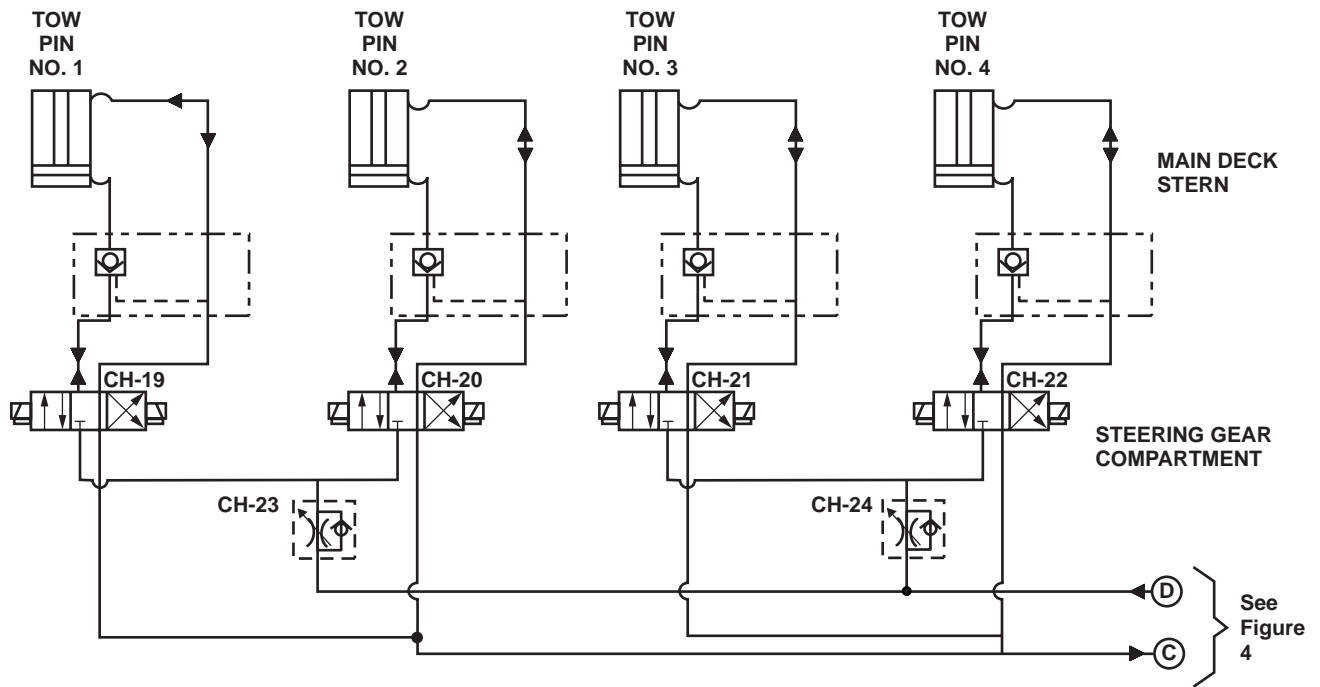
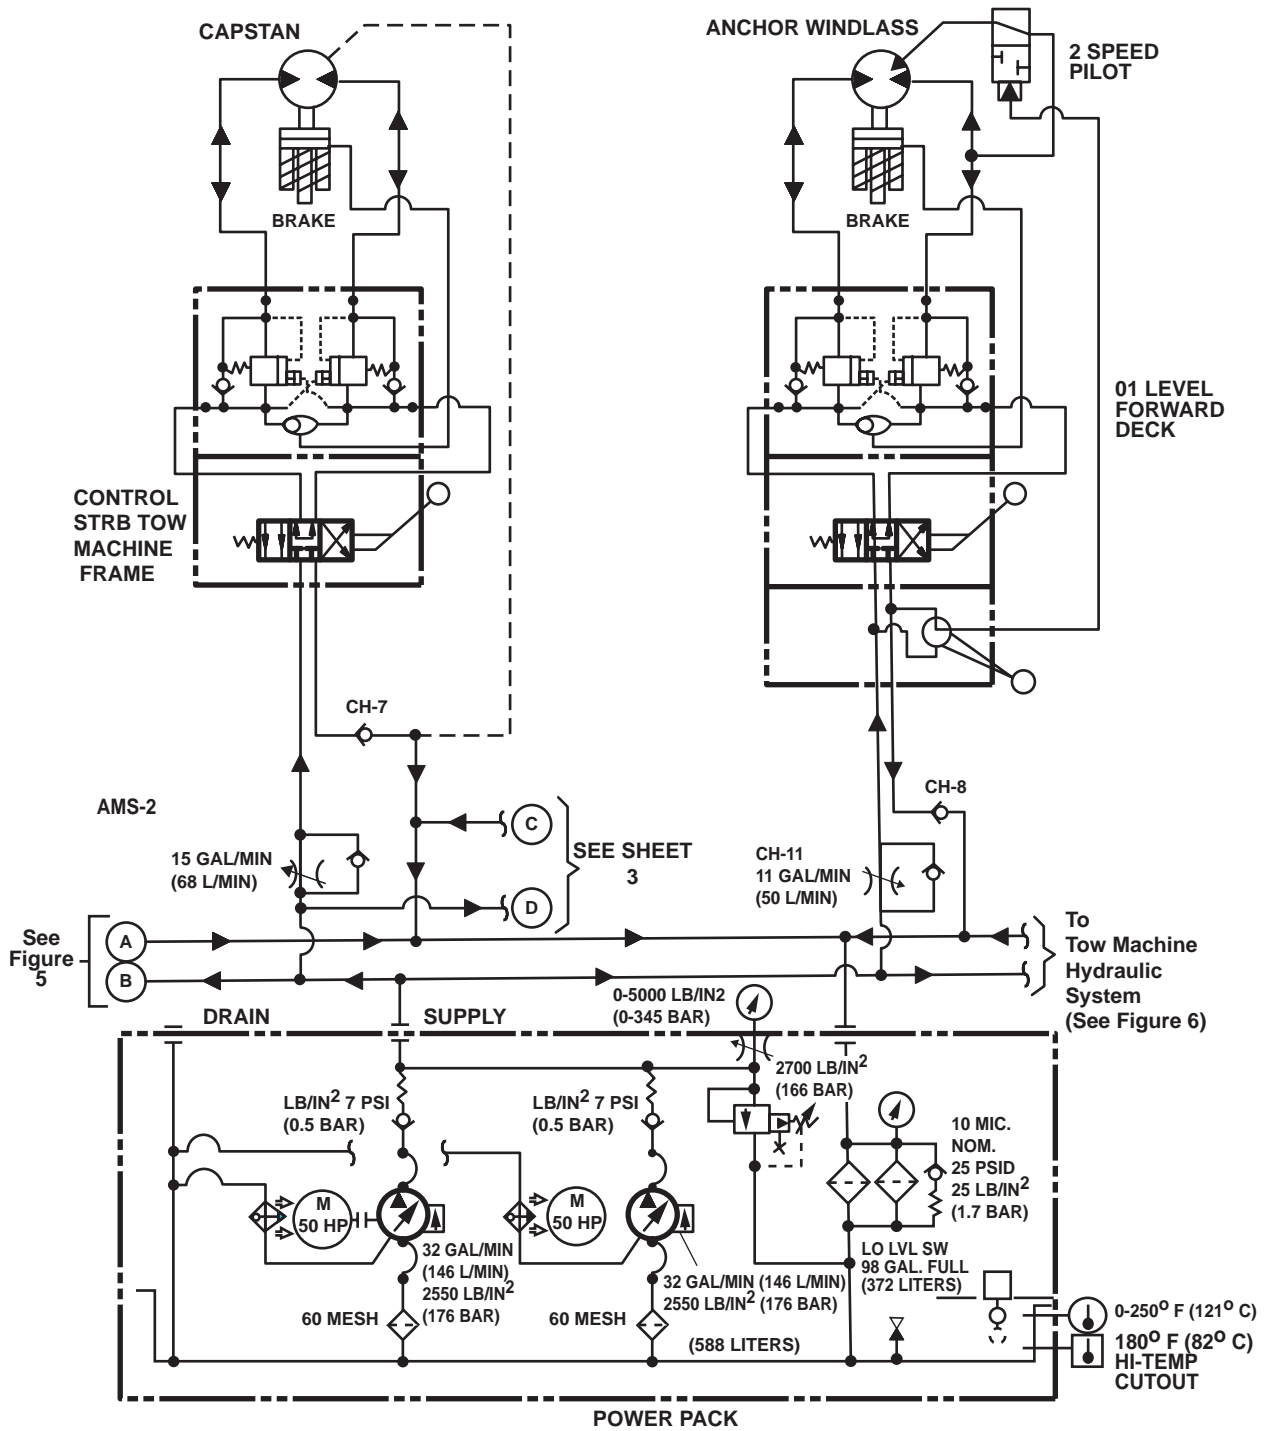
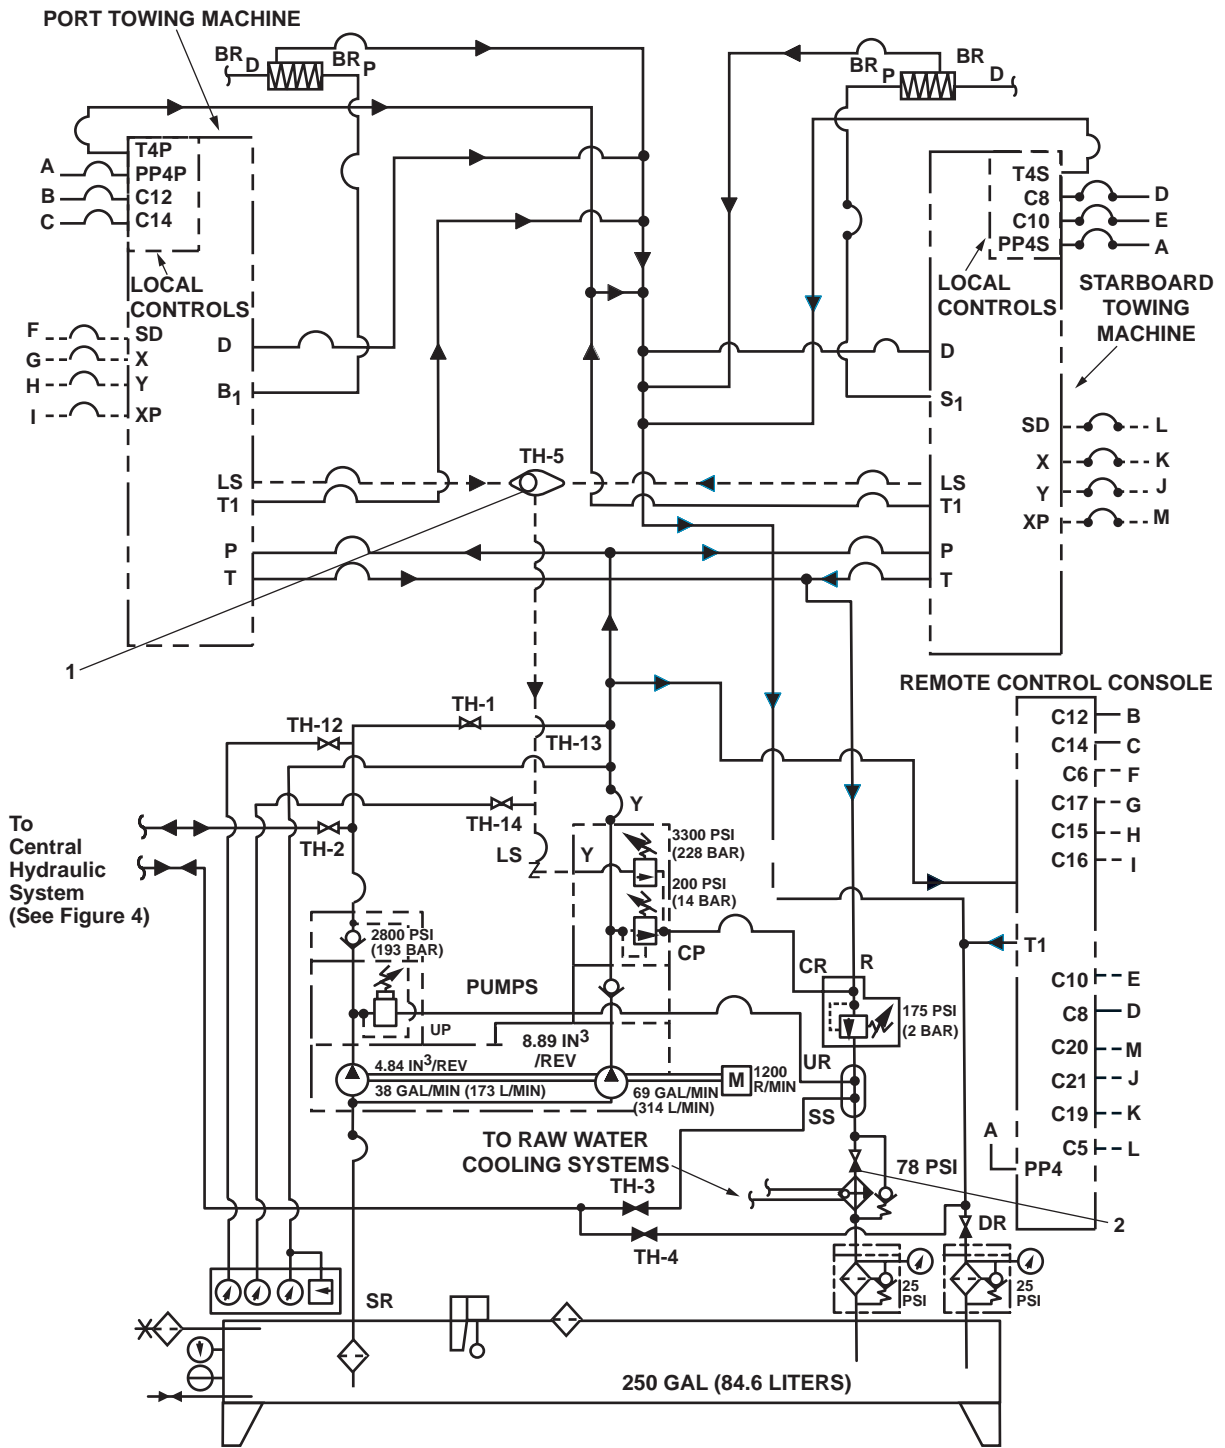

Figure 3. Central Hydraulic System (Main Deck)
Figure 4. Central Hydraulic System (Power Pack)
Figure 6. Towing Machine Hydraulic System
The central hydraulic system (figures 3, 4, 5) provides hydraulic power for the crane, the capstan, tow pins, and anchor windlass. It may also be aligned to provide hydraulic power to both towing machines. A crossover allows the towing machine hydraulic system (figure 6) to power the central hydraulic system (figure 3) in the event of failure of the central hydraulic system (figure 4) or power pack (figure 6). The central hydraulic system (figure 3, 4, and 5) is comprised of a hydraulic fluid reservoir, two pump units, filter, and control panel. Refer to WP 0039 00 for further details.
The towing machine hydraulic system (figure 6) provides hydraulic power for the port and starboard towing machines. It may also be aligned to provide hydraulic power the central hydraulic system (figures 3, 4, and 5). The hydraulic towing machine system consists of: a diesel engine (pump drive engine), a pump unit, a reservoir, and a hydraulic oil cooler.
The pump drive engine, located in AMS 1 (starboard side), powers a dual pump, open-loop hydraulic system. The maximum hydraulic flow is proportional to the pump drive engine's speed. The hydraulic fluid flow is controlled by a proportional directional control valve (figure 6, item 1) mounted on the towing machine drive motor. The pilot signal to the directional control valve is from the remote control lever located on the operator's console. A crossover allows this hydraulic system (figure 6) to power the central hydraulic system (figures 3, 4, and 5) in the event of failure of the central hydraulic system (figure 4).
The hydraulic oil cooler (figure 6, item 2) (located at the reservoir) uses raw water to cool hydraulic fluid that was heated while operating the towing machine.